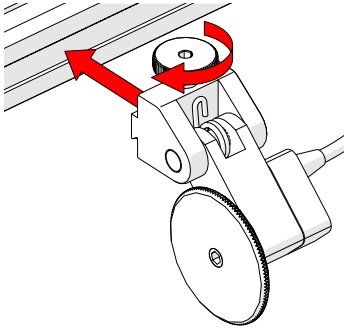

Fig. 42 - Attach to frame bar
1. Loosen the encoder's dovetail jaw and mount it to the frame bar (Fig. 42).